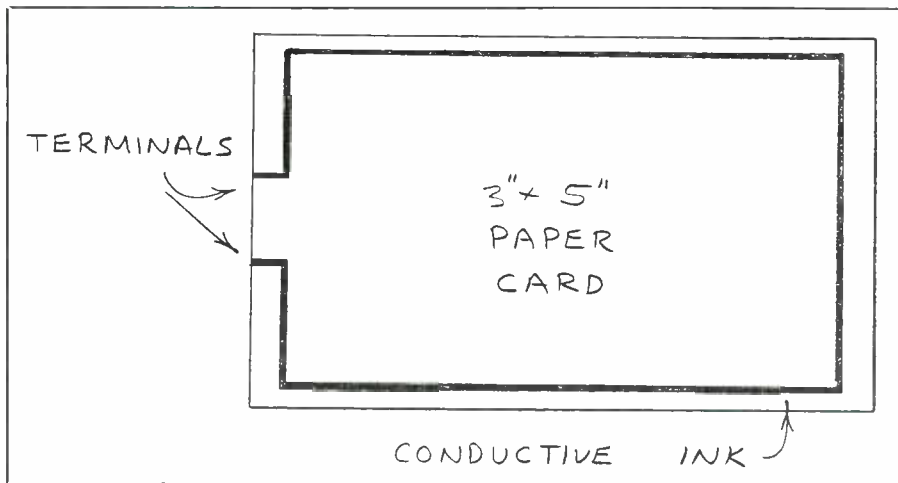

Fig. 4. Details for constructing a conductive-ink search coil.
- **Conductive Ink Antennas and Coils.** You can use conductive ink to make an infinite variety of antennas and coils. For example, I used a Circuit Works pen to apply a strip of conductive ink around the perimeter of a 3 x 5-inch paper card, as shown in Fig. 4. This provided a trace with a total length of 14 inches and a dc resistance of 35 ohms. While the resistance is very high, this simple arrangement works well as a pickup coil for locating ac electrical lines inside walls. All that's needed is to connect the opposite ends of the loop to the input of a small battery-powered amplifier. If current is flowing through a wire, its presence is revealed as a 60-Hz tone from the amplifier when the coil is placed nearby.